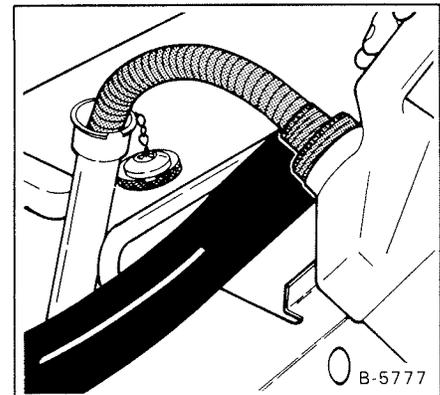

Fig. 1 – 21 Engine Oil Fill
- (7) Start the engine let it run for several minutes. Stop the engine and check the oil level (Fig. 1 – 18). Add oil if the level is not at the top mark on the dipstick.